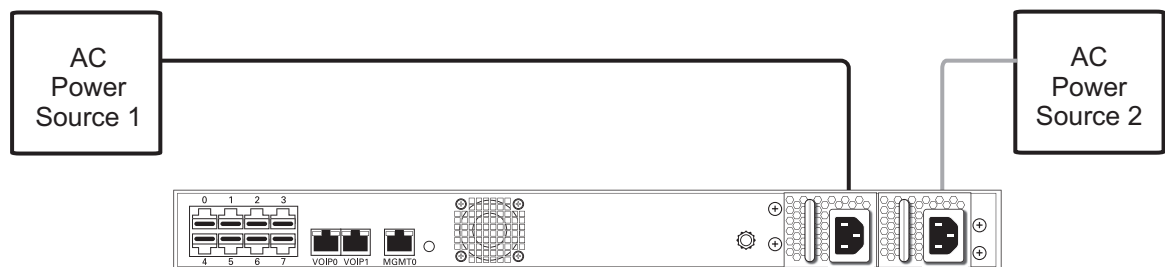

Figure 2.6 AC Power Connection
1. Connect an AC power cable between the AC connector of the TMG800 and an AC supply. See figure 2.6 on page 16.
Note If the TMG800 features a second power supply and it is not connected to an AC power source, press the green button located at the rear of the unit to disable the audible alarm. See figure 2.6 on page 16.